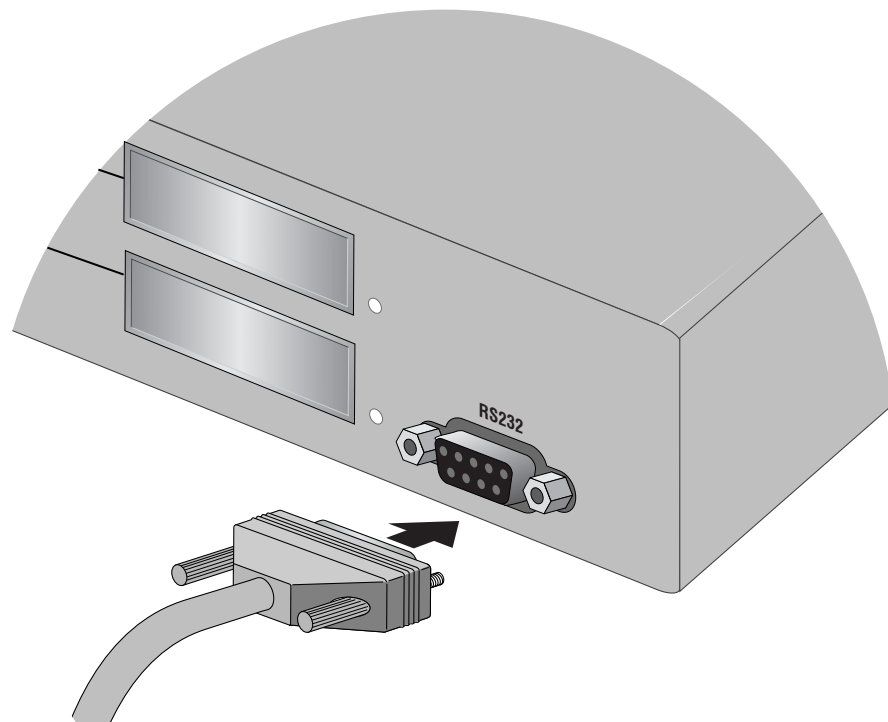

Figure 32 Connecting the Null Modem Management Cable to the RS-232 Terminal Port
1. Connect one end of the null modem management cable to the RS-232 Terminal Port on the front panel of the master switch, as shown in Figure 32.